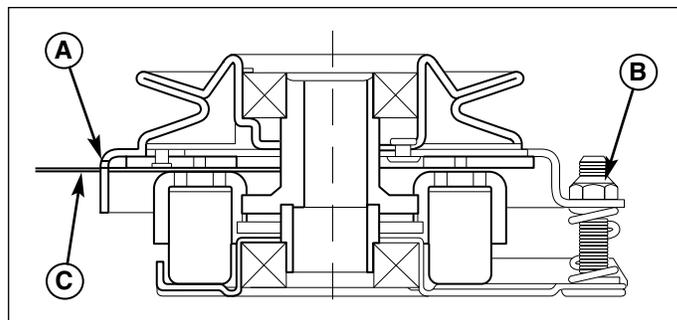

Figure 13. Adjust PTO Clutch
3. Insert a .016\"-.018\" (0,40-0,45mm) feeler gauge (C) through each window, positioning the gauge between the rotor face and the armature face as shown in Figure 13.